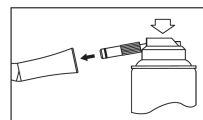

Fig. 5
2. Insert the Spray Nozzle into the rear of the handpiece. Hold the handpiece firmly and spray lubricant for 2-3 seconds. Apply lubricant until it has been expelled from handpiece head for 2 seconds (Fig. 5).